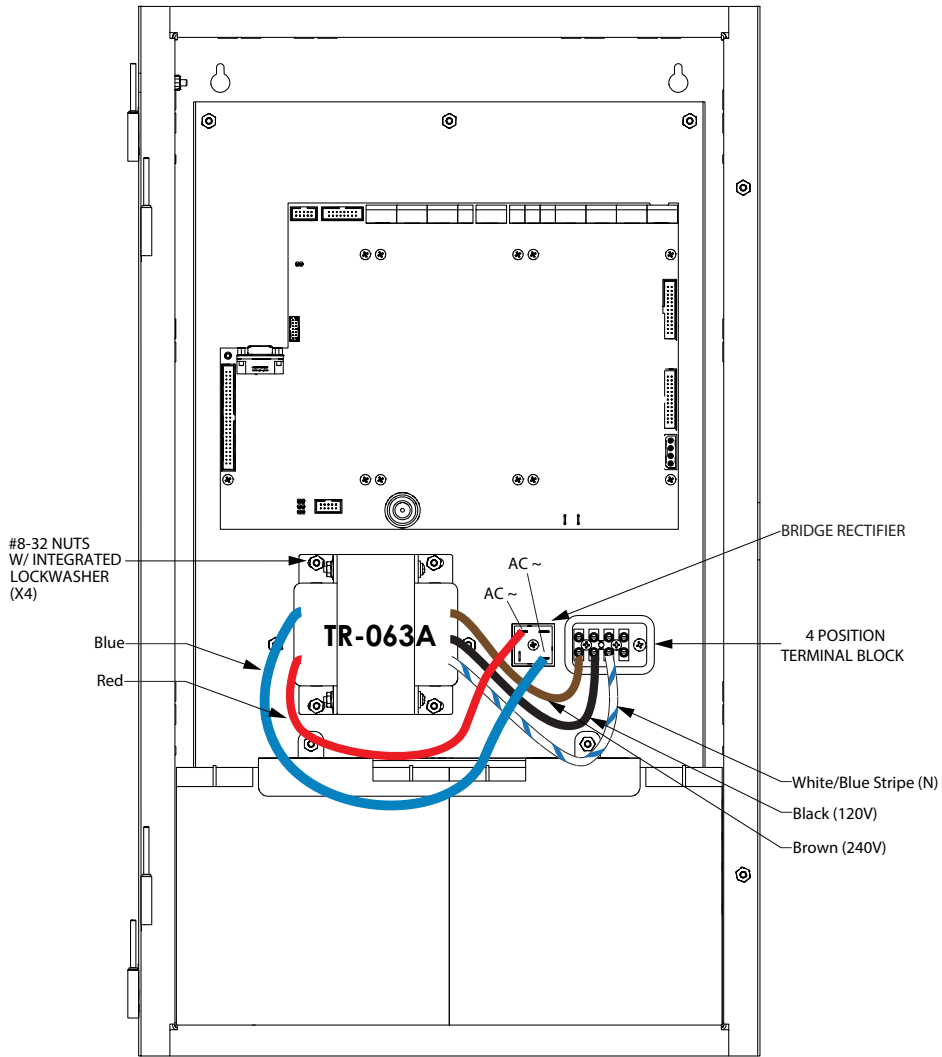

Figure 3 TR-063A in FX-2003-6DS-16LED
1. Disconnect the old transformer by performing the following steps (refer to Figures 3 and 4 for the locations of connectors and terminals):
Note: Connect the wires to the same terminals on the bridge rectifier that the wires of the old transformer were connected to. See Figures 3 and 4.